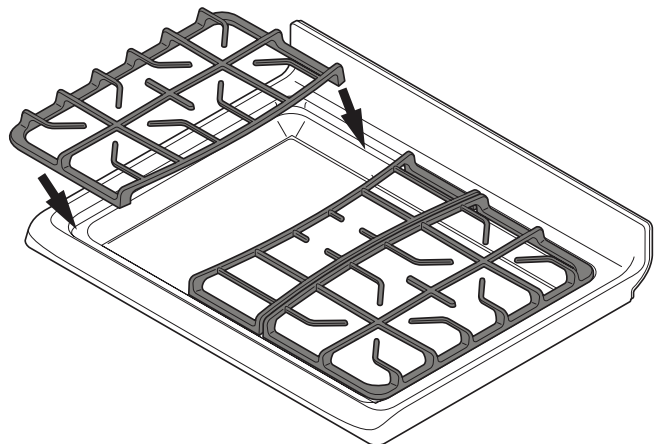

Figure 6: Make sure grates are secure before cooking.
- Make sure the burner grates are properly placed on the cooktop before using the surface burners (Figure 6). The grates are designed to rest inside the recess on the cooktop.